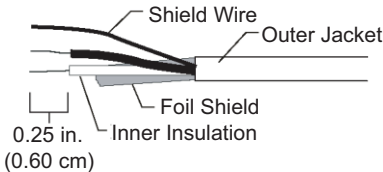

Fig. 8 — Wiring Equipment Touch Interface to UC Open XP Controller
2. Partially cut, then bend and pull off the outer jacket of the cable. Do not nick the inner insulation. See Fig. 8 for the wiring equipment touch interface to controller.